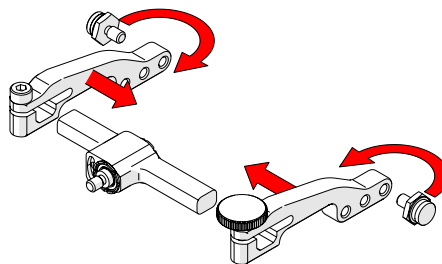

Fig. 54 - Attach arms and move buttons
4. Place the pivot buttons on the inside of the probe holder arms (Fig. 54) using a 3/8 in wrench (Fig. 15). Slide the arms onto the yoke and tighten the probe holder arm adjustment knob and the arm clamp screw.